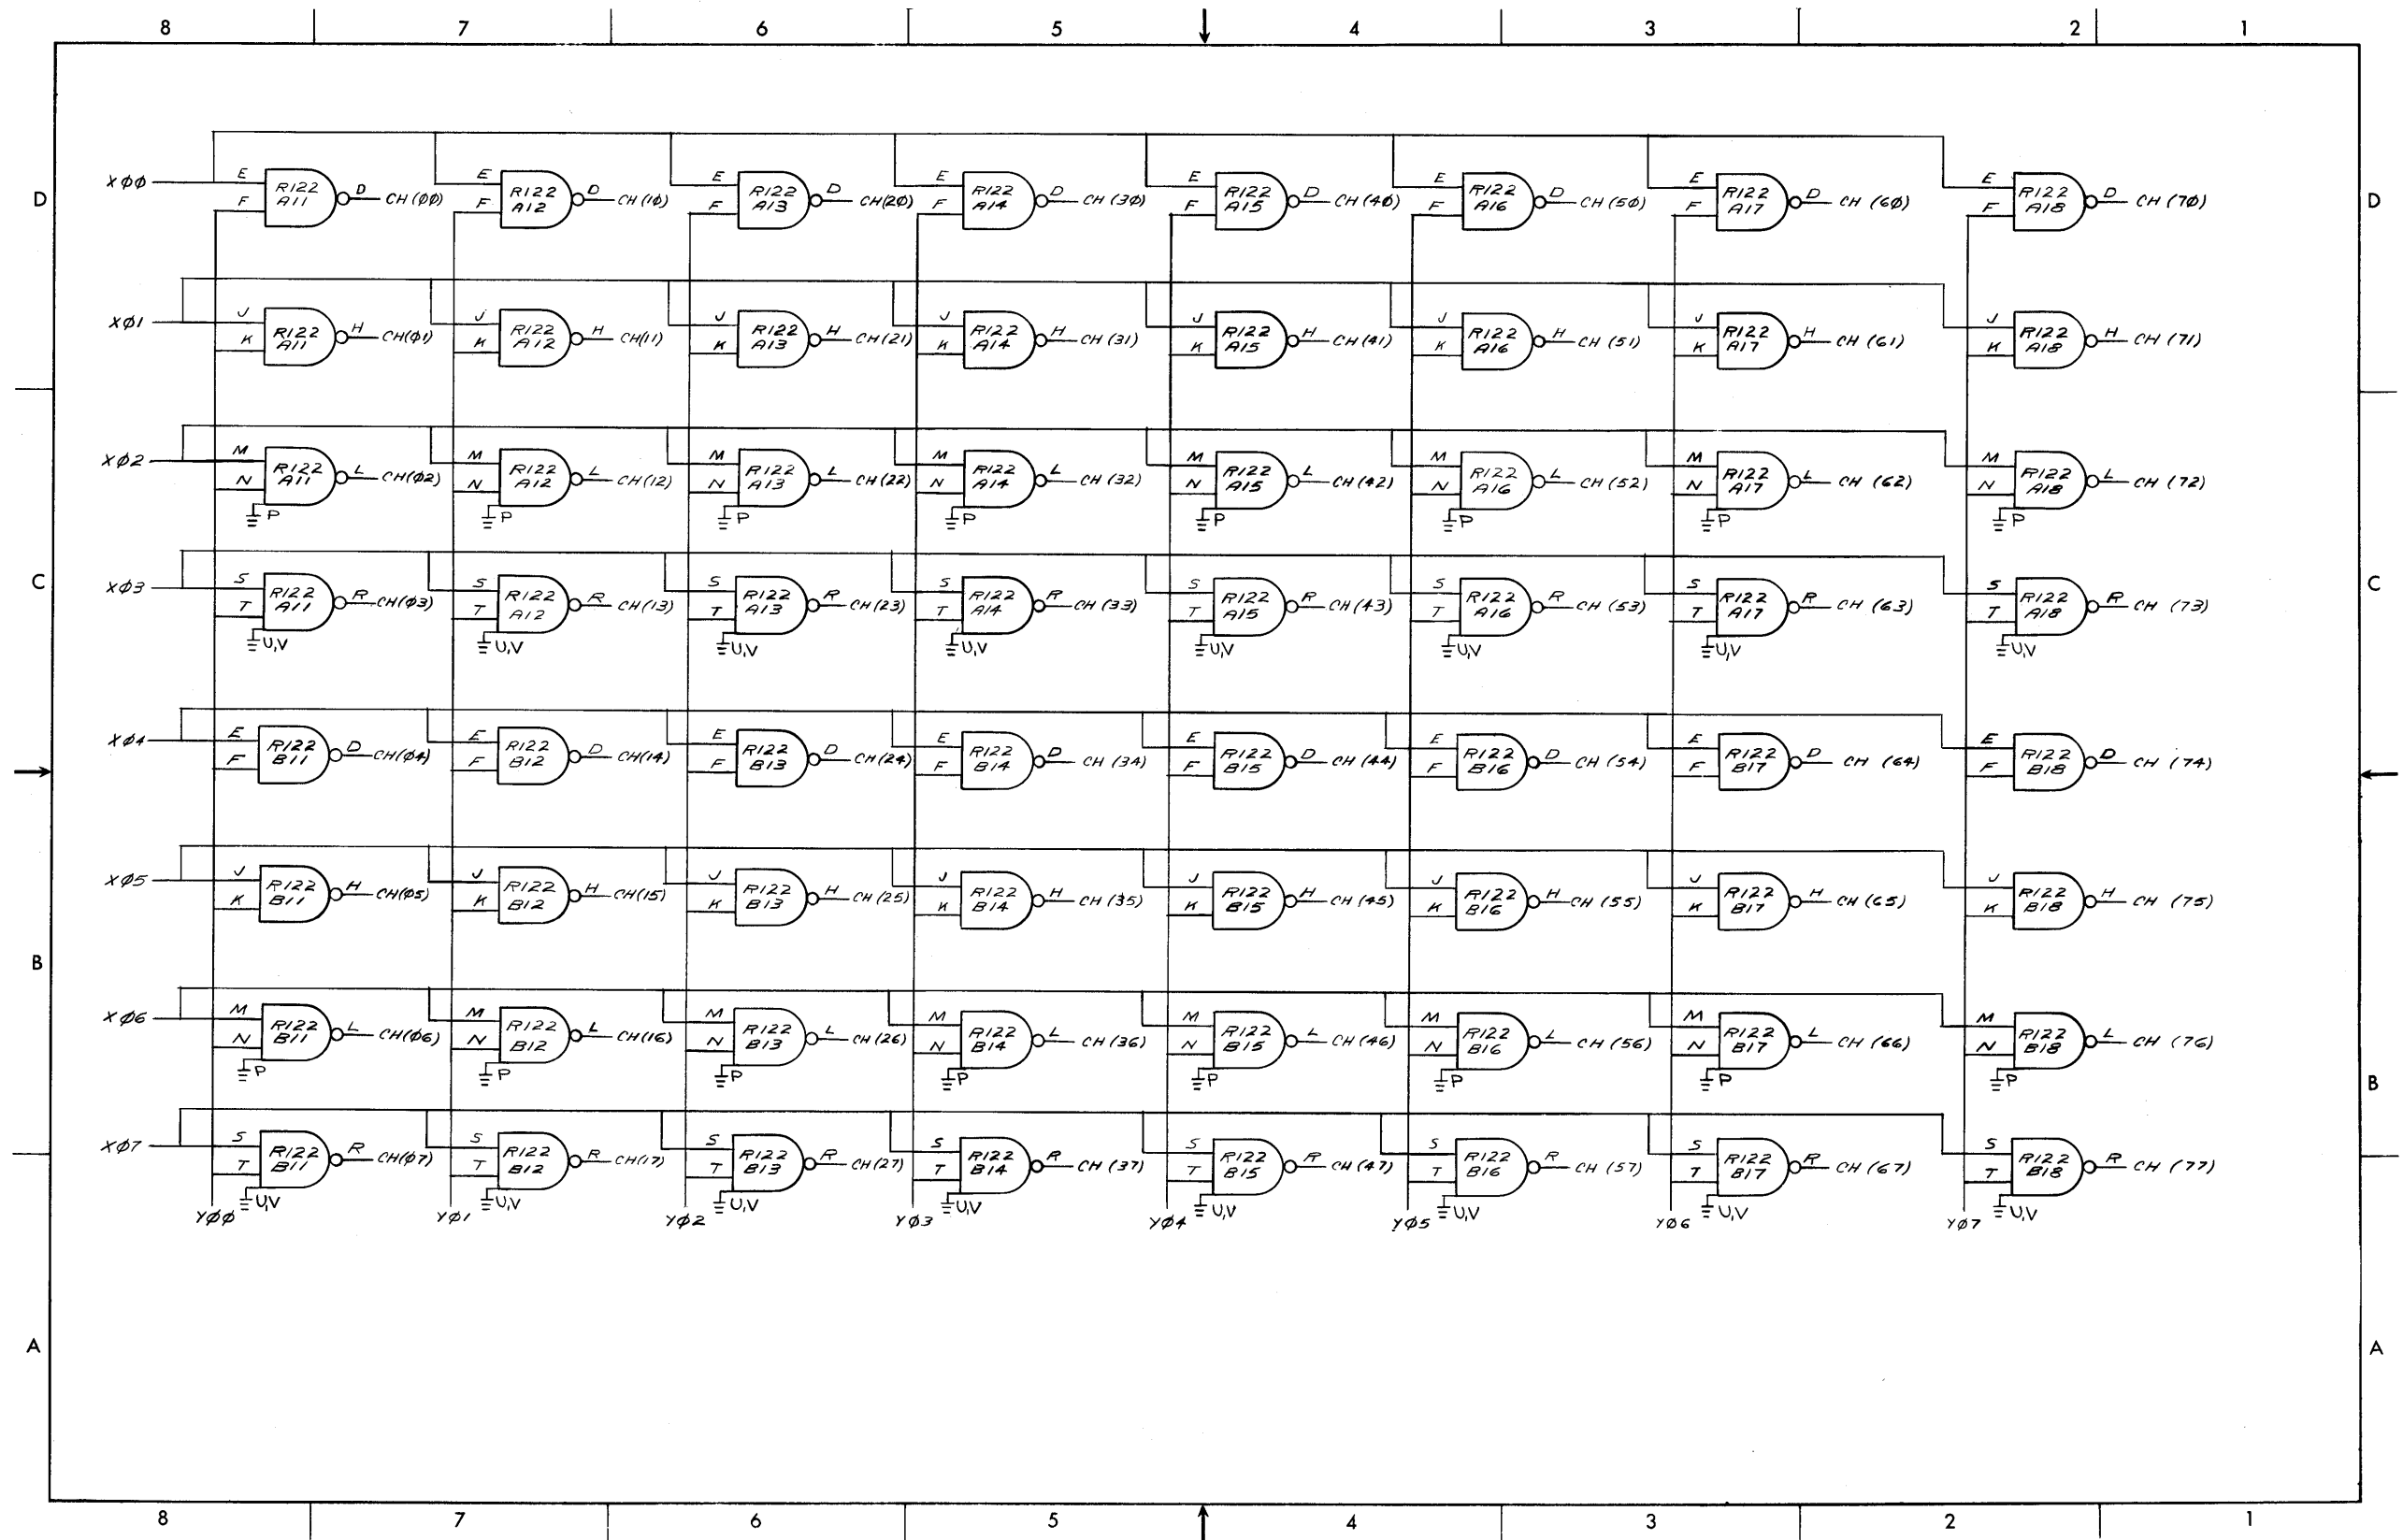

Figure 6-3 D-BS-AF16-0-3 LOC Channel Selector Block Schematic Diagram
- Figure 6-3 LOC Channel Selector Block Schematic Diagram (D-BS-AF16-0-3)